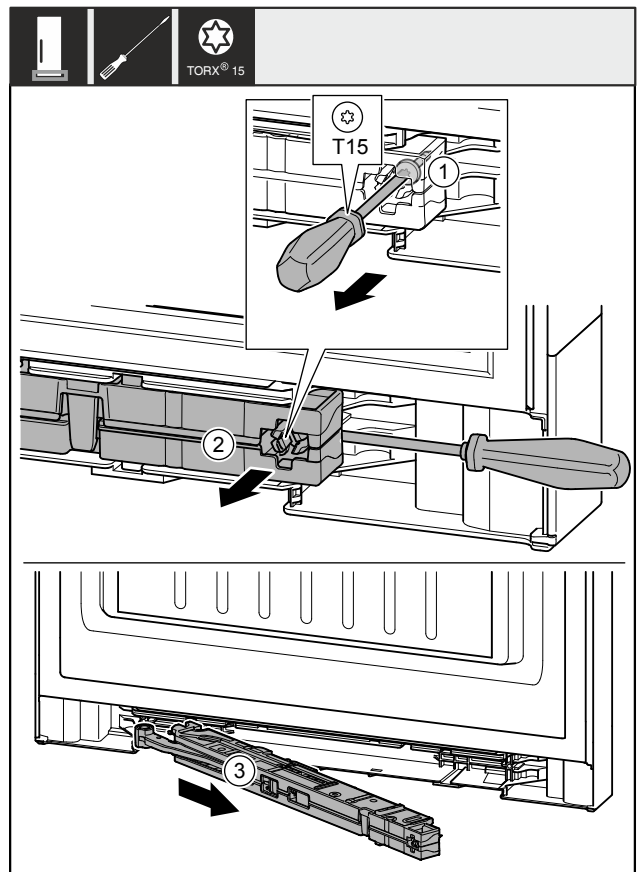

Fig. 10
- Loosen the screw Fig. 10 (1) on the closing damper unit with an approx. 14 mm (9/16 in) screwdriver.
- Use the screwdriver to lift out the closing damper unit Fig. 10 (2) on the handle side.
- Pull out the closing damper unit Fig. 10 (3).